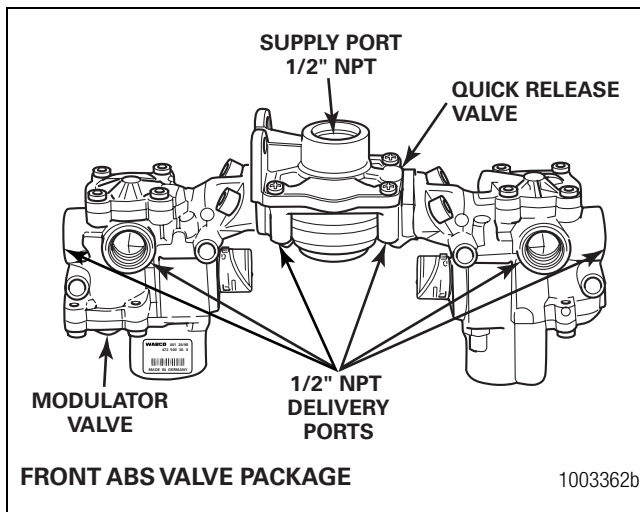
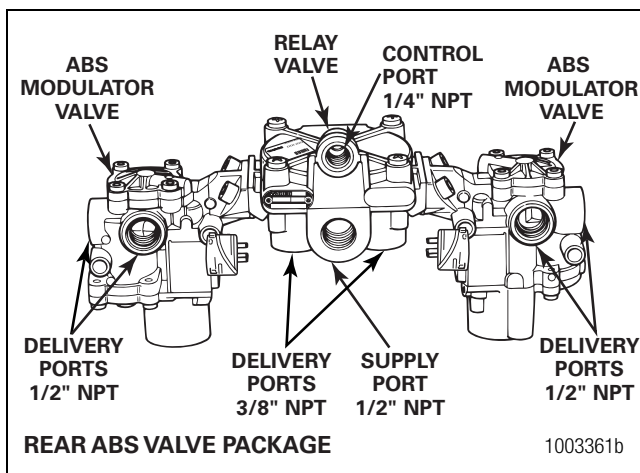

Figure 4.7
Figure 4.8
4. Remove all the air lines and connections from the ABS valve package. Figure 4.7 and Figure 4.8.